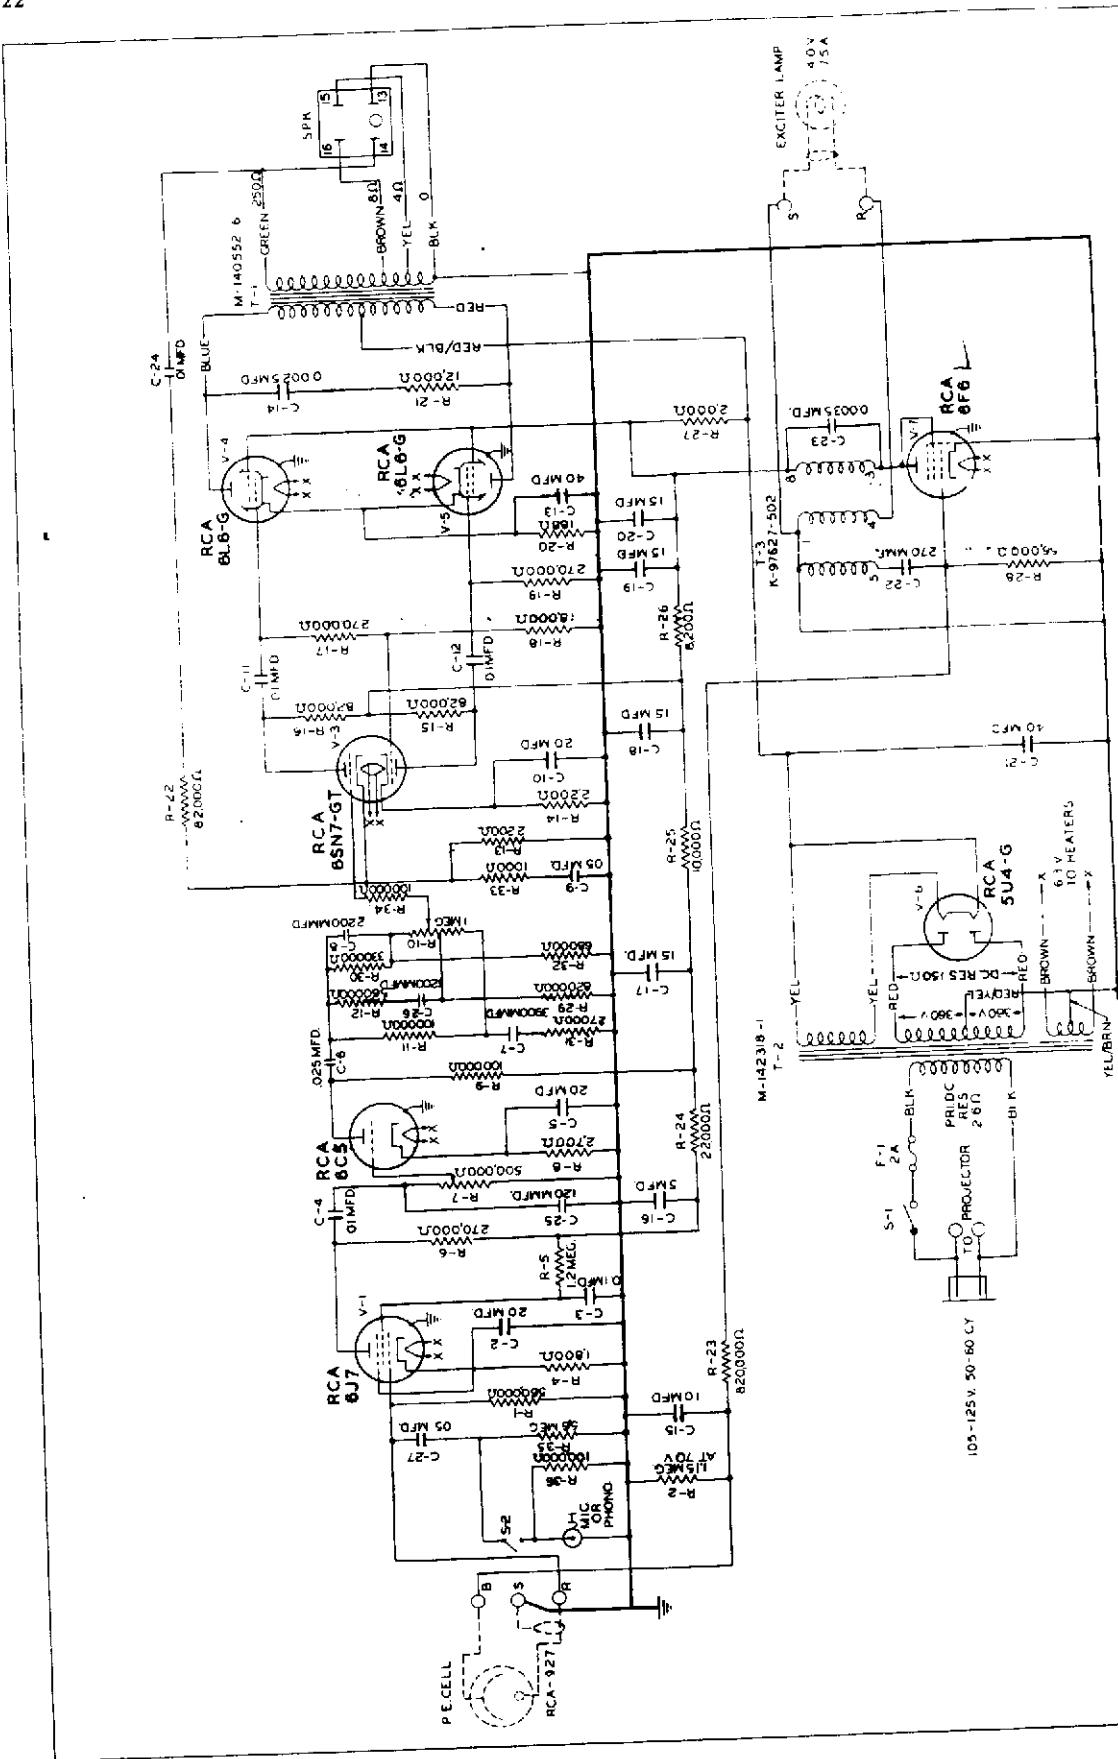

Figure 13—Circuit Diagram of Amplifier
41. The circuit diagram of the amplifier is given in figure 13. The amplifier has provision for two sources of signals: a photocell and a high-impedance microphone or phonograph pickup. Either may be selected with switch S-2, which is labeled MIC-FILM on the amplifier panel.